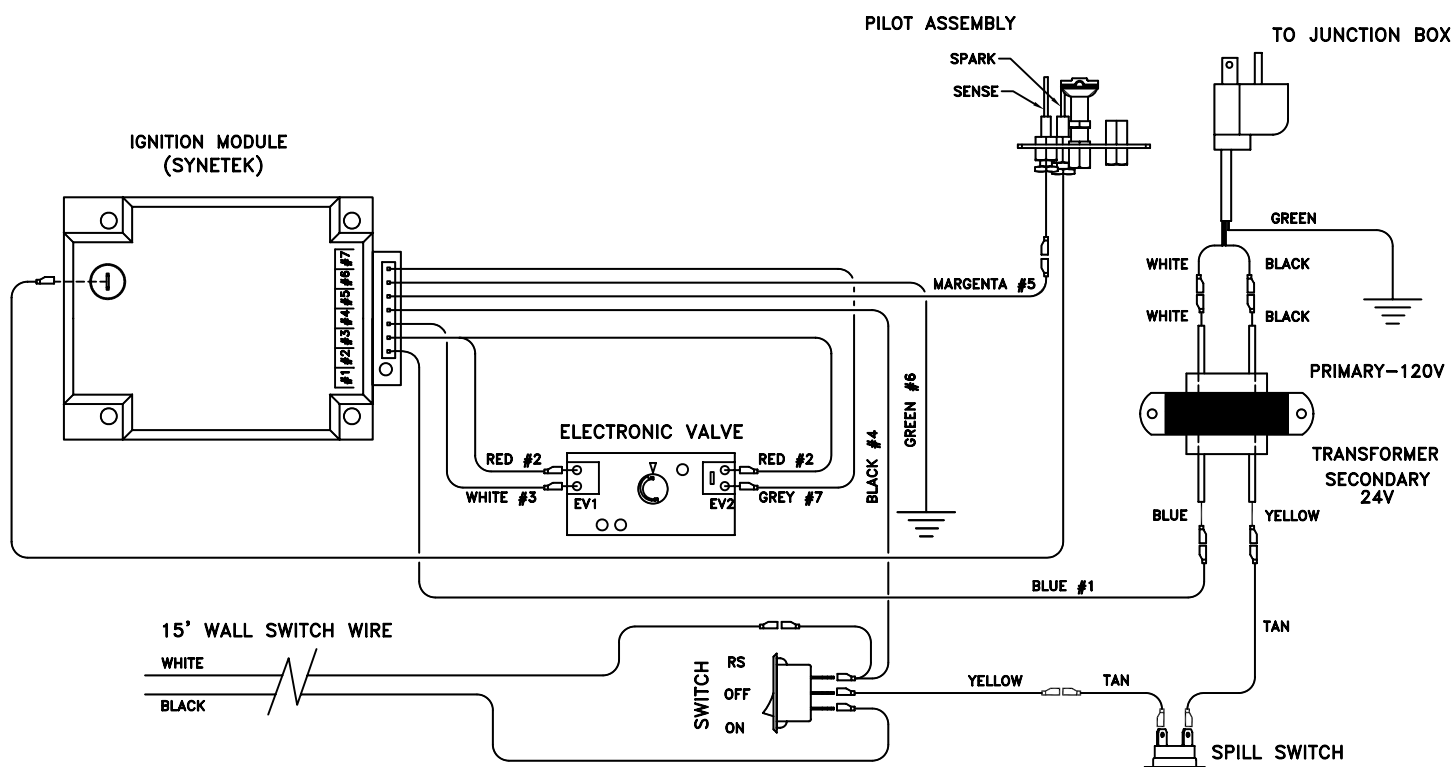

Figure 20 - Electronic Ignition System Wiring Diagram
2. Connect the wire terminal from the remote receiver. This replaces the 15' wall switch connection to the switch. See *Figure 20*.